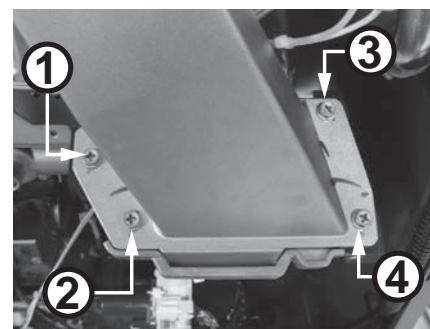

Figure 129 - Remove fan assembly screws
- 19** Locate the four (4) screws securing the fan assembly to the burner door assembly as shown in Figure 129. Use a Phillips screwdriver to remove the screws. Place the screws aside in a safe place for reinstallation.